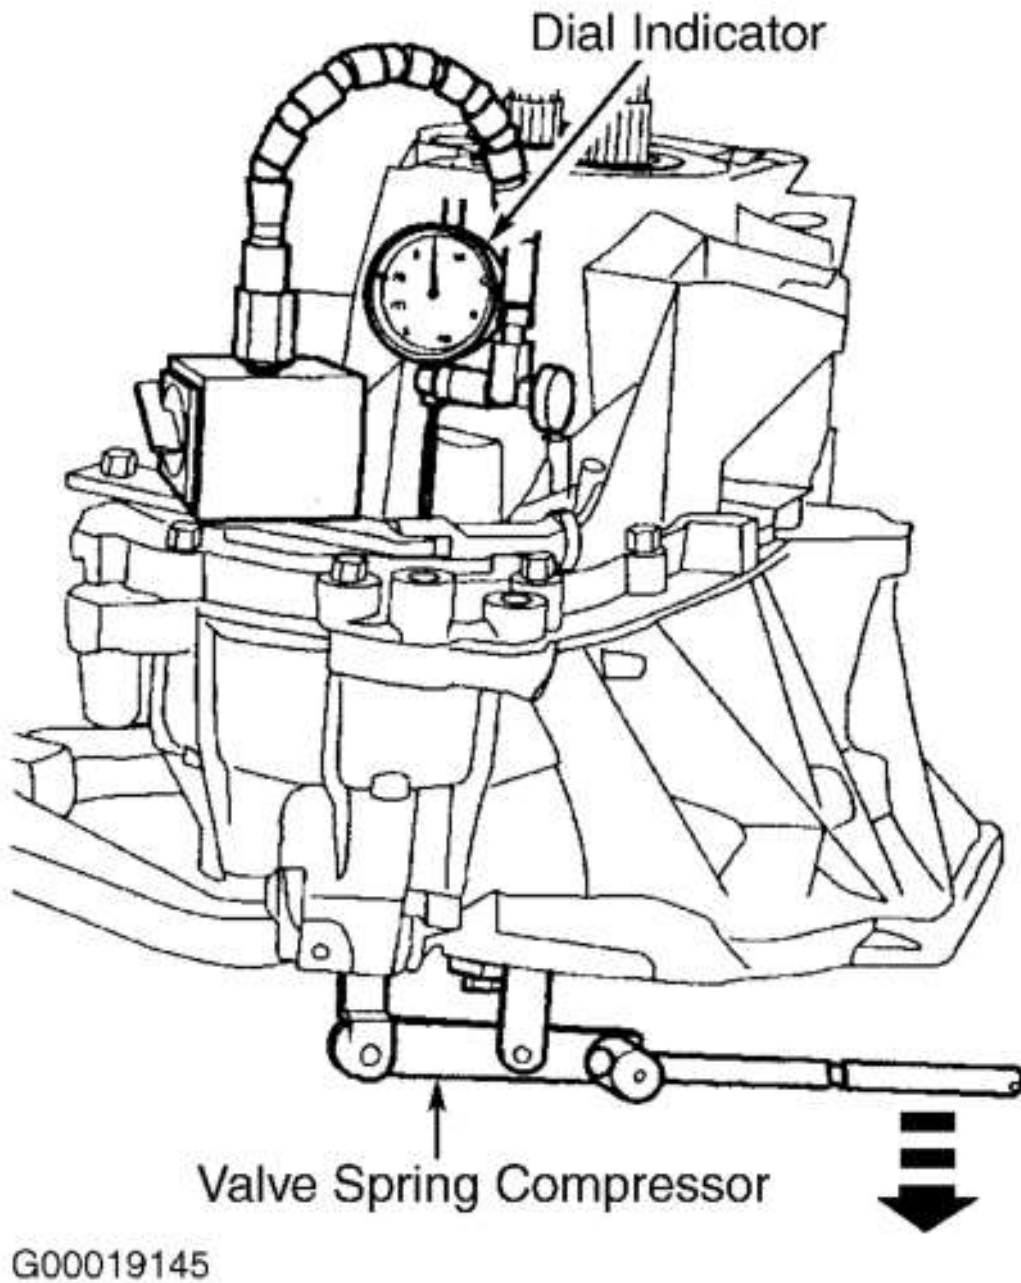

Fig. 28: Measuring Differential End Play
5. Ensure transaxle housing mating surfaces are clean. Install Blanking Plugs (308-152) into both axle shaft openings. Assemble transaxle housings and tighten bolts to specification. See **TORQUE SPECIFICATIONS** . Remove blanking plugs. Install Shim Selection Set (303-S217) and Valve Spring Compressor (303-350) to transaxle as shown. See **Fig. 27** . Install Dial Indicator and Holding Fixture (100-002) to transaxle as shown. See **Fig. 28** . Rotate differential ring gear at least 10 times to settle bearings. Zero dial indicator.
- Using valve spring compressor or appropriate lever, move differential to opposite side, and note dial indicator reading. See **Fig. 28** . Repeat this procedure 3 times, noting dial indicator reading each time.